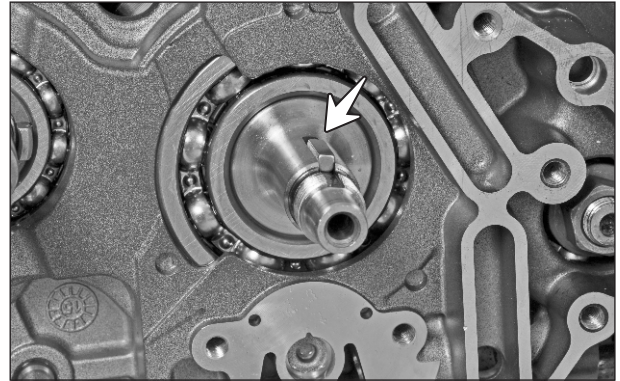

Fig. 3.128
- Take out key (4x4x15) from the crankshaft assembly. (Fig. 3.128)